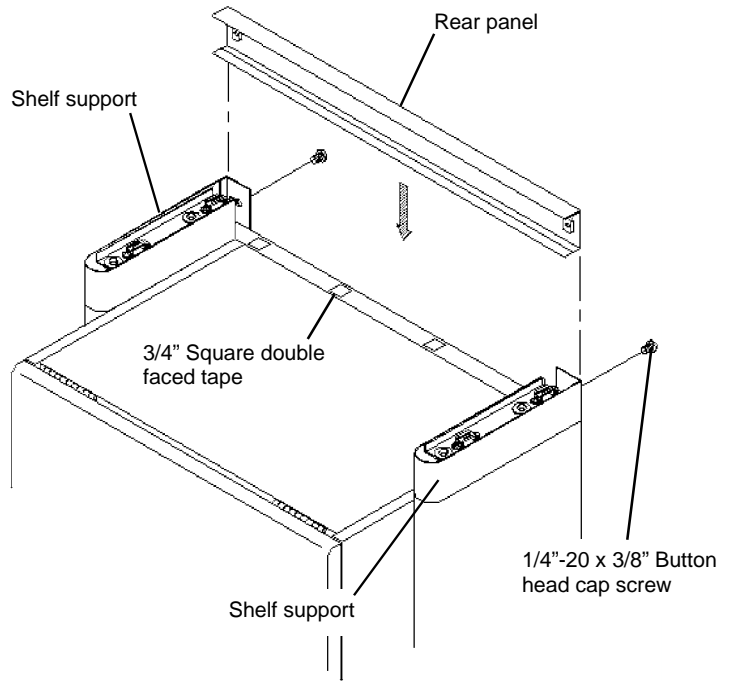

Figure 4
Attach the four squares of double faced tape , evenly spaced, to the top of the Organizer back panel. See **Figure 4**.
5. Install the Shelf **Rear Panel** into the back of the Shelf Supports and fasten it in place with the two 1/4"-20 x 3/8" screws provided. See **Figure 4**.